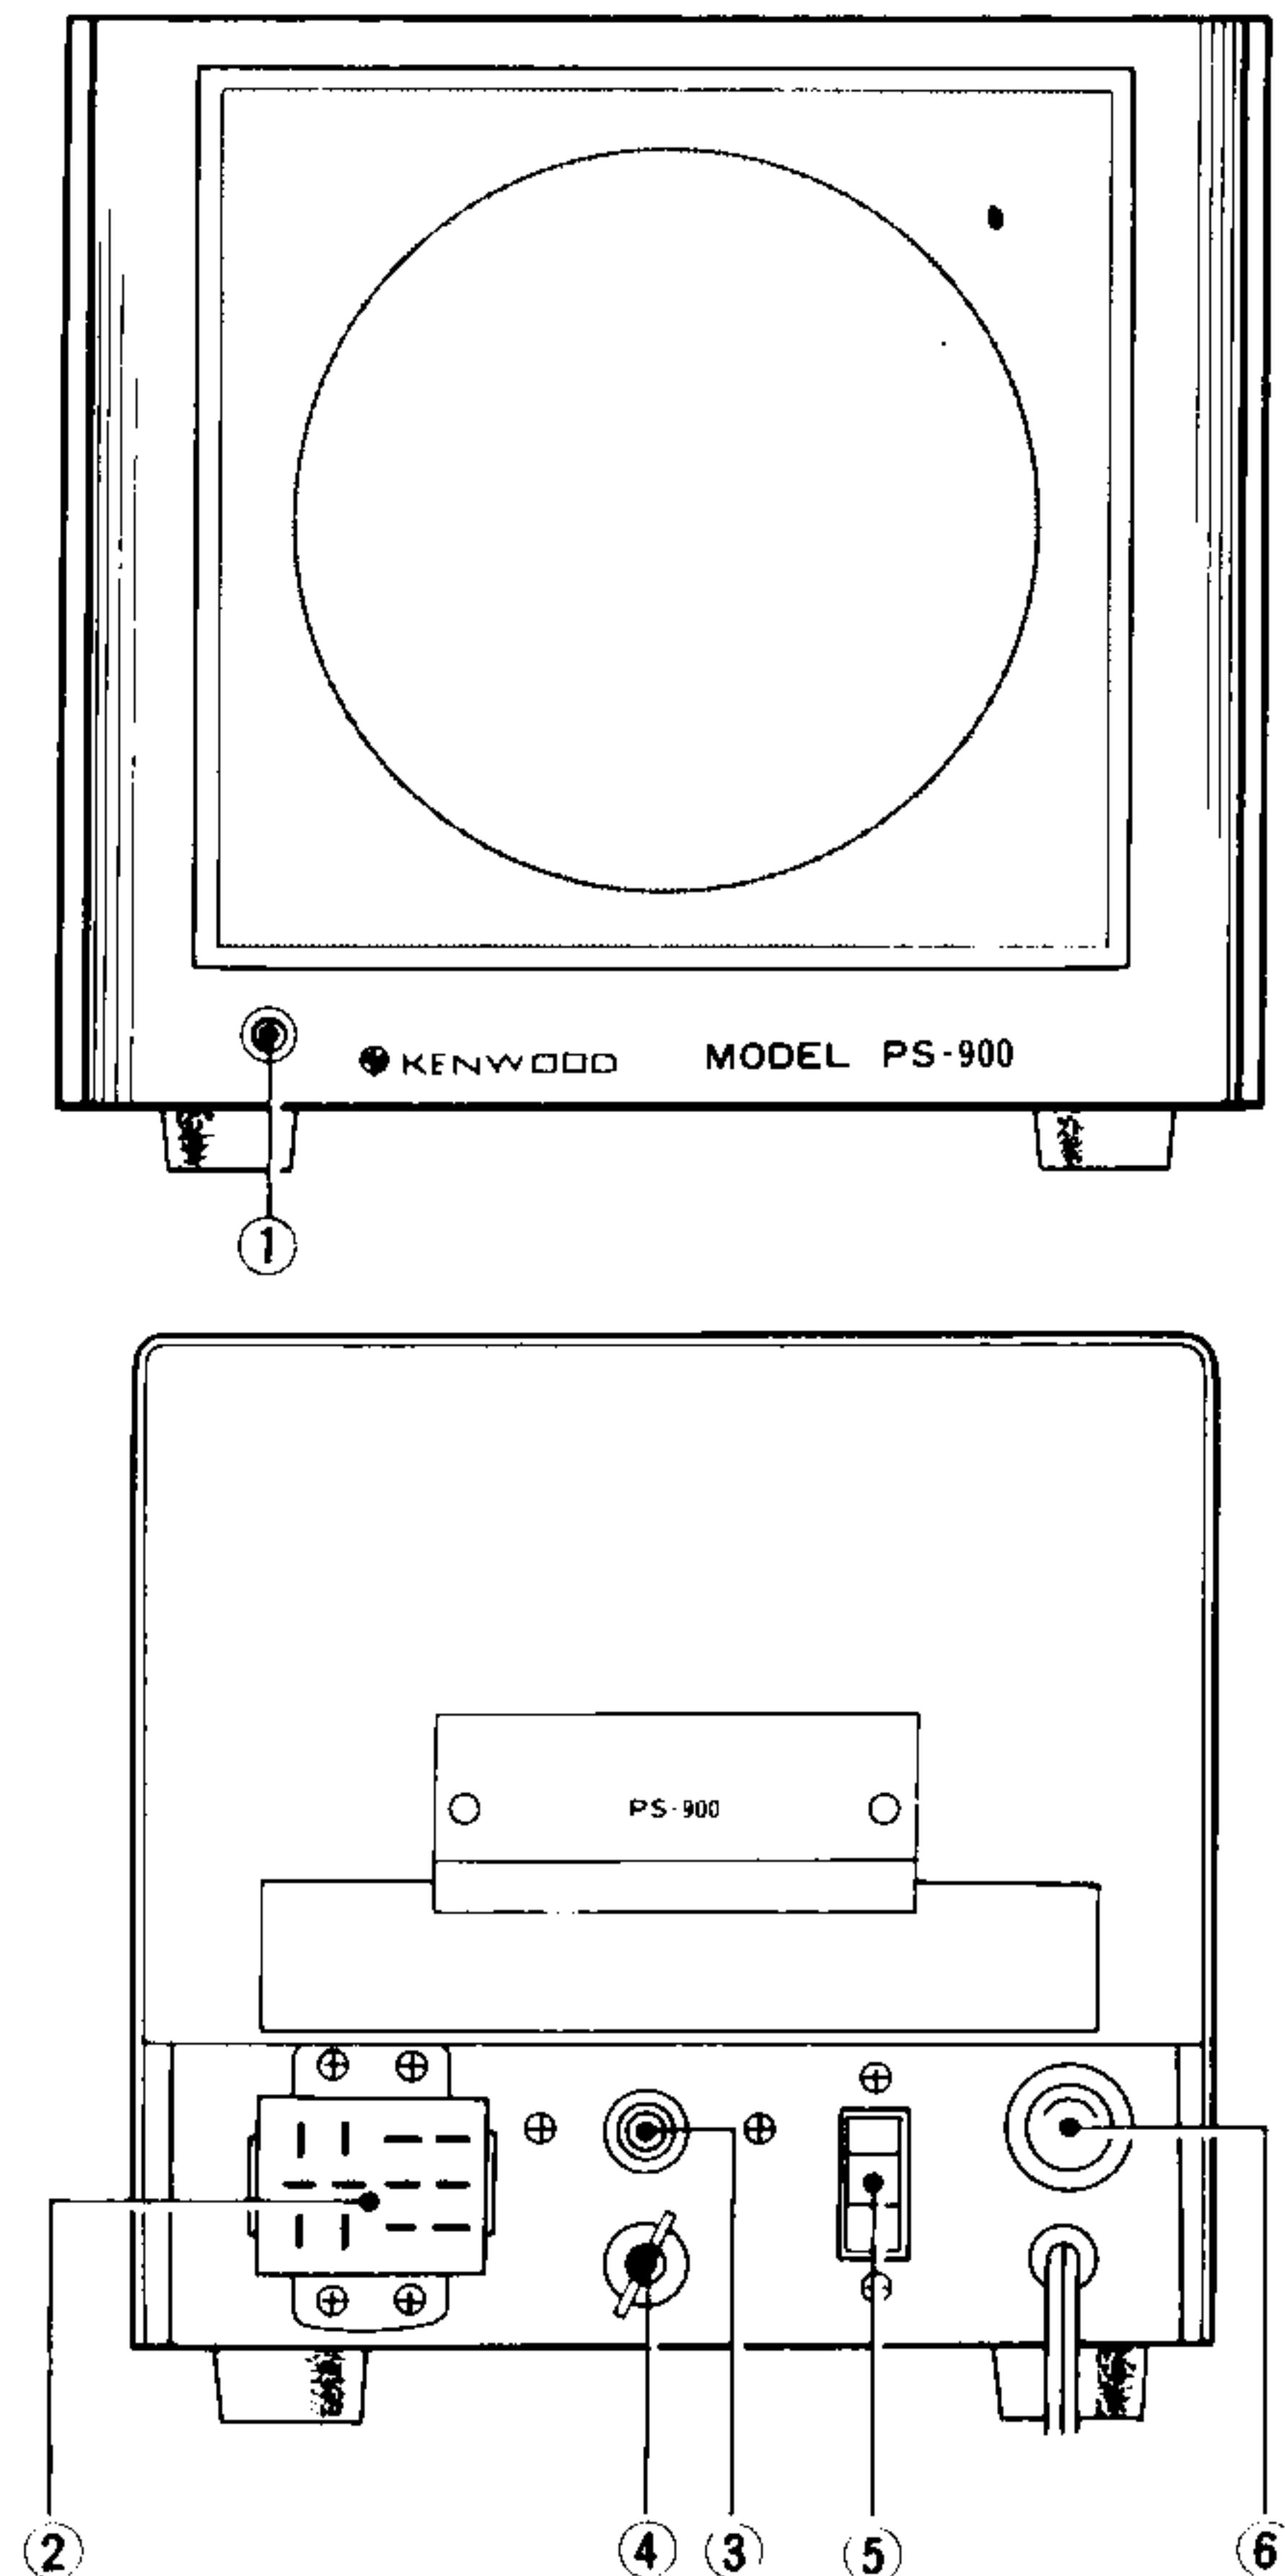

FIGURE 2. PS-900 Operating Controls
3.1 FRONT PANEL CONTROLS (See Figure 2)
PILOT LIGHT (1 on Figure 2)
3.2 REAR PANEL CONTROLS (See Figure 2)
POWER SUPPLY CONNECTOR (2 on Figure 2)
SPEAKER JACK (3 on Figure 2)
GND LUG (4 on Figure 2)
VOLTAGE SELECTOR SWITCH (5 on Figure 2)
FUSE (6 on Figure 2)